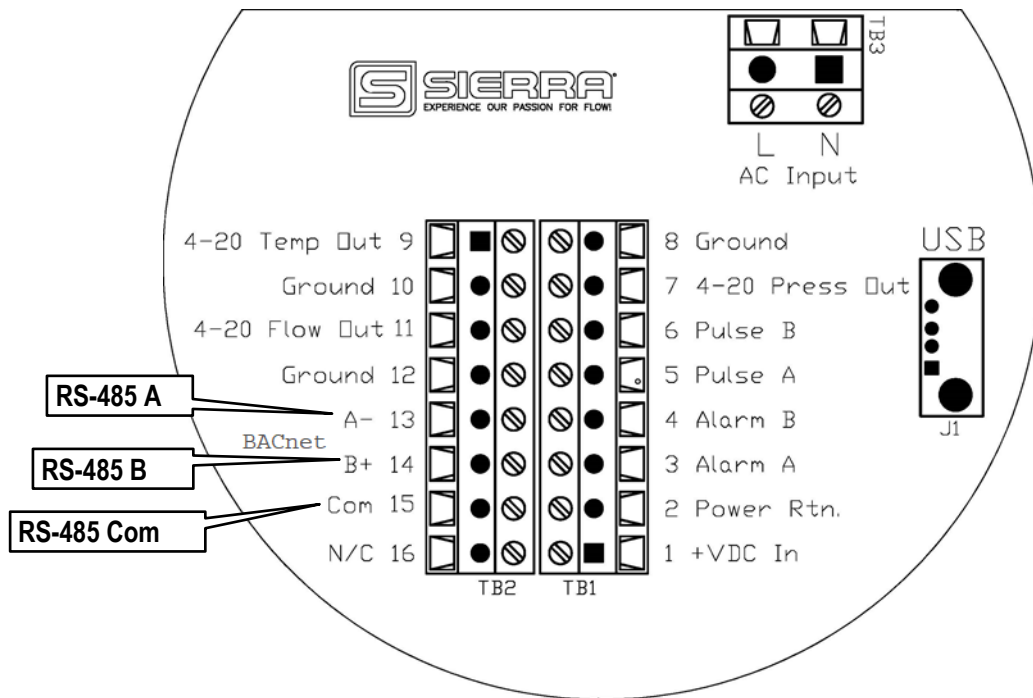

Figure 4. BACnet RS-485 Network Wire Connection
2. Connect the RS-485 common (sheild wire) to terminal Com 15 (See Figure 4).
We use a RS-485 chip that has 1,5000 volts of isolation (See Figure 4). For electrical noise, it’s best to keep the shield wire isolated from Earth ground and only connect it to terminal 16 and the signal ground at the Master.